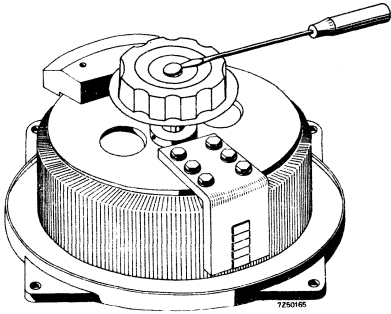

Fig. 1
1. Remove knob and spindle (if present), see Figs. 1 and 2.